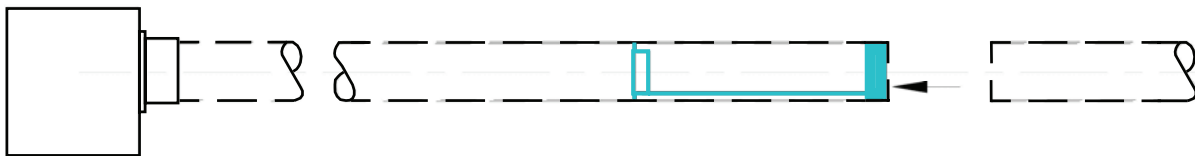

Figure 11. Burner Insert
9. If heater has burner insert(s), remove insert(s) (see Figure 11).